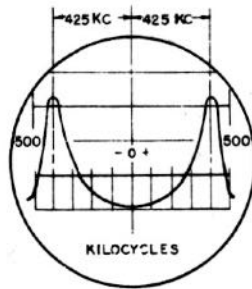
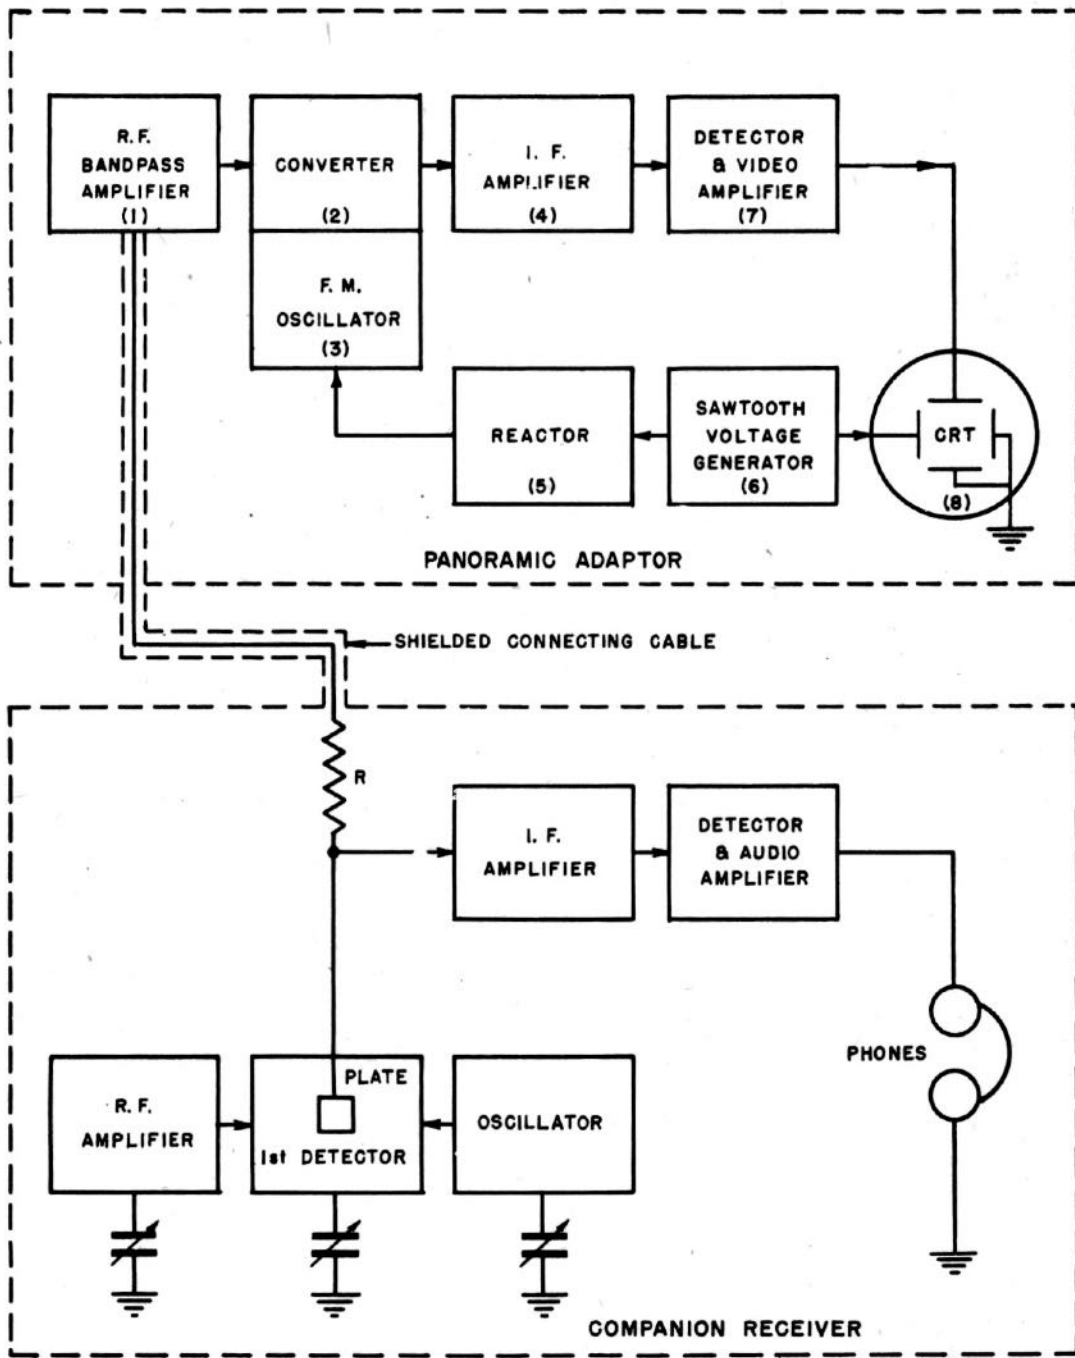

FIG. 7
FIG. 9 - BLOCK DIAGRAM
The panoramic adaptor has an input-amplifying stage with a bandpass characteristic which is inverse to that of the receiver (See Fig. 7, and 8).). That is, it amplifies where the receiver attenuates, and
4.03 Bandpass Amplifying Stage. Refer to Block Diagram Fig. 9, for a description of the various steps by which panoramic reception is obtained. Block marked (1) is an R.F. bandpass amplifier (Fig. 7,) which is the input stage of the panoramic adaptor, and is connected to the plate of the first detector of the receiver, through the isolating or blocking resistor "R". This blocking resistor prevents detuning of the receiver and permits the latter to operate normally.